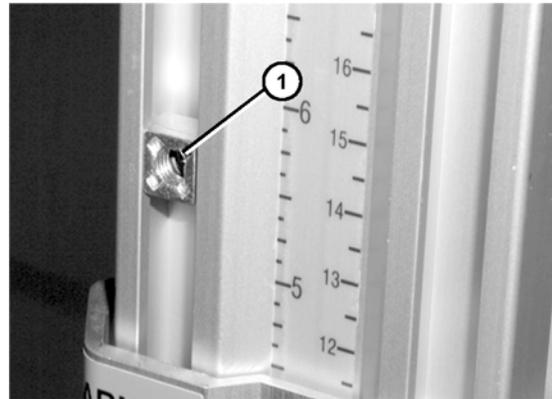

**Figure 4**
2. Attach controller (**Figure 4, item 1**) to conveyor with screws (**Figure 4, item 2**).